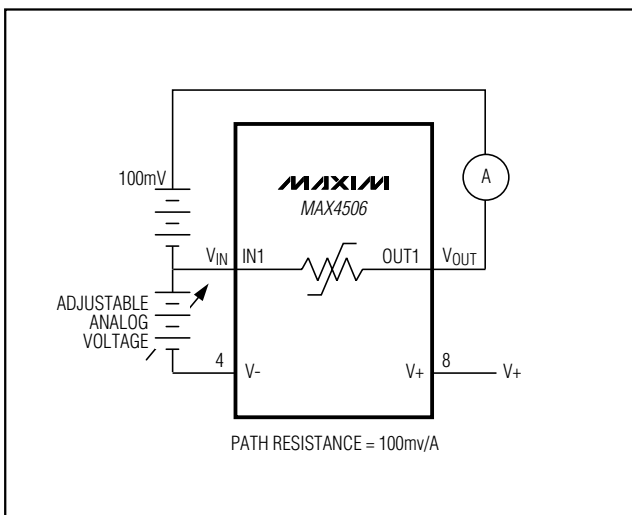

Figure 8. Path-Resistance Measuring Circuit
Figure 8 shows a circuit that can give reliable results. This circuit uses a 100mV voltage source, a low-voltage-drop ammeter as the measuring circuit, and an adjustable supply to sweep the analog voltage across its entire range. The ammeter must have a voltage drop of less than one millivolt (up to the maximum test current) for accurate results. A Keithley model 617 electrometer has a suitable ammeter circuit, appropriate ranges, and a built-in voltage source designed for this type of measurement. Find the path resistance by setting the analog voltage, measuring the current, and calculating the path resistance. Repeat the procedure at each analog and supply voltage.
**Note:** It is important to use a voltage source of 100mV or less. As shown in Figure 8, this voltage and the  $V_{IN}$  voltage form the  $V_{OUT}$  voltage. Using higher voltages could cause OUT to go into a fault condition prematurely.